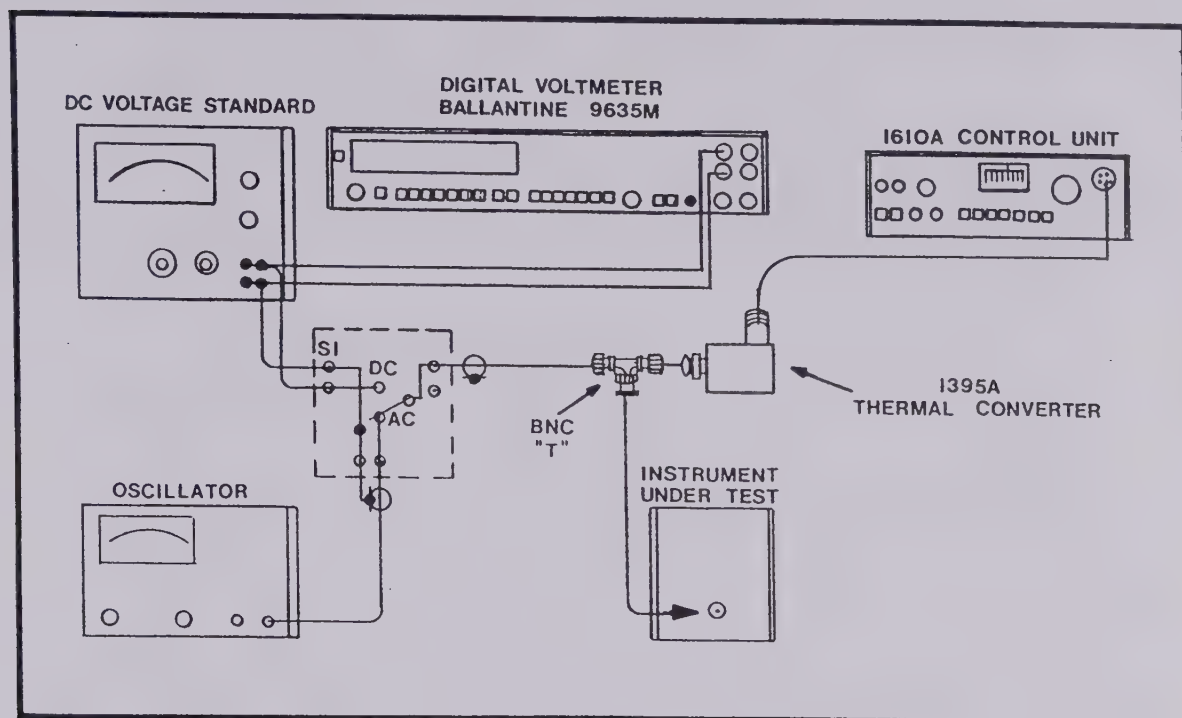

Figure 3-2. Generation of a Precise Test Signal Test Set-Up
The test setup shown in figure 3-2 provides a test signal that may be used for both frequency response and absolute value calibration at any frequency within the thermal converter range. The dc standard provides the absolute value voltage reference, and the test oscillator generates the ac calibration signal. When S1 is set to the dc position and output of the DC Voltage Standard is set to the desired calibration voltage, the reference supply is adjusted for a null indication on the null meter. When S1 is switched to the ac position, the oscillator output amplitude is adjusted to re-establish a null indication. This sets the rms value of the oscillator output equal to the dc voltage standard output. The oscillator output signal is used for the instrument under test.
b. Connect the test equipment and instrument under test as shown in figure 3-2. Keep all connecting cables as short as possible. Perform these tests in a low electrical noise or shielded environment. Always ground test equipment.
c. Set S1 (in figure 3-2) to dc, and the dc voltage standard output to $+1.000 \text{ V} \pm 0.01\%$.